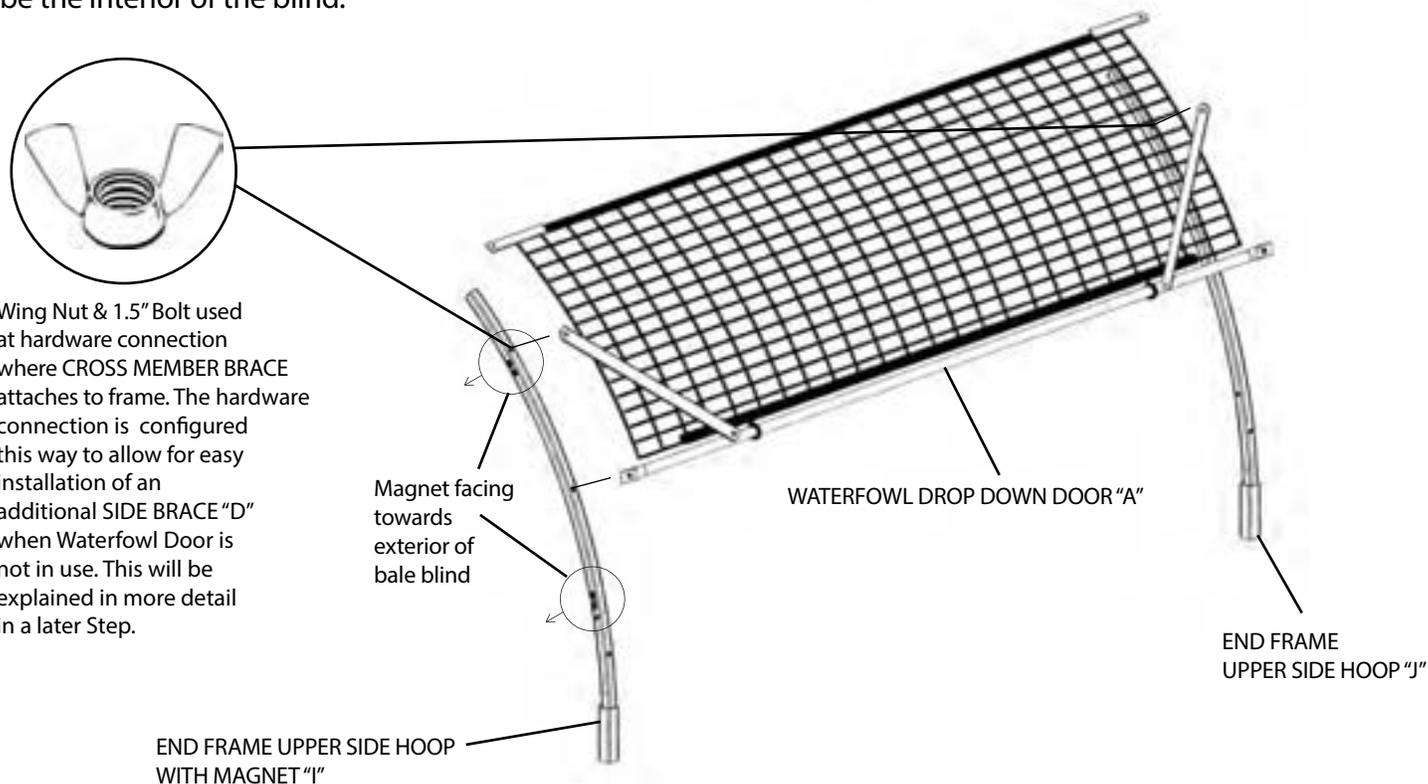

Figure 13.1
STEP 5: Locate the (3) parts that will be assembled to create the second section of the bale blind frame. These parts are (1) END FRAME UPPER SIDE HOOP WITH MAGNET "I", (1) END FRAME UPPER SIDE HOOP "J", and the (1) WATERFOWL DROP DOWN DOOR "A". Using the hardware connection in (2) places, align and fasten the hole ends in the WATERFOWL DROP DOWN DOOR with the middle hole in the END FRAME UPPER SIDE HOOP WITH MAGNET "I" and the middle hole in the END FRAME UPPER SIDE HOOP "J", fastening with (2) Bolts and (2) Nuts. Next align the hole ends of the (2) CROSS MEMBER BRACES already installed on the WATERFOWL DROP DOWN DOOR with the corresponding upper most holes in the END FRAME UPPER SIDE HOOP WITH MAGNET "I" and the END FRAME UPPER SIDE HOOP "J", and fasten with (2) 1.5" Bolts and (2) Wing Nuts, as illustrated in Figure 13.1.
NOTE: On the END FRAME UPPER SIDE HOOP WITH MAGNET "I", make sure the magnets are facing towards what would be the exterior of the bale blind, as illustrated in Figure 13.1.